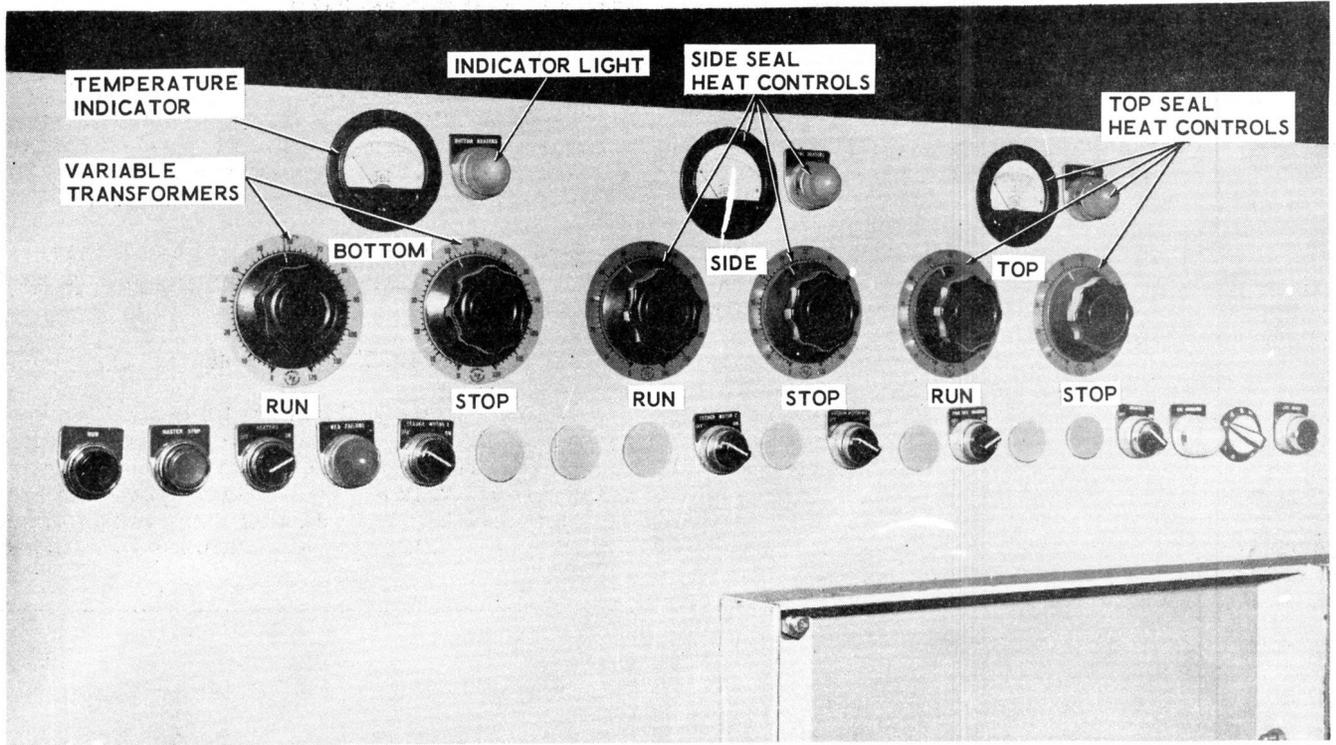
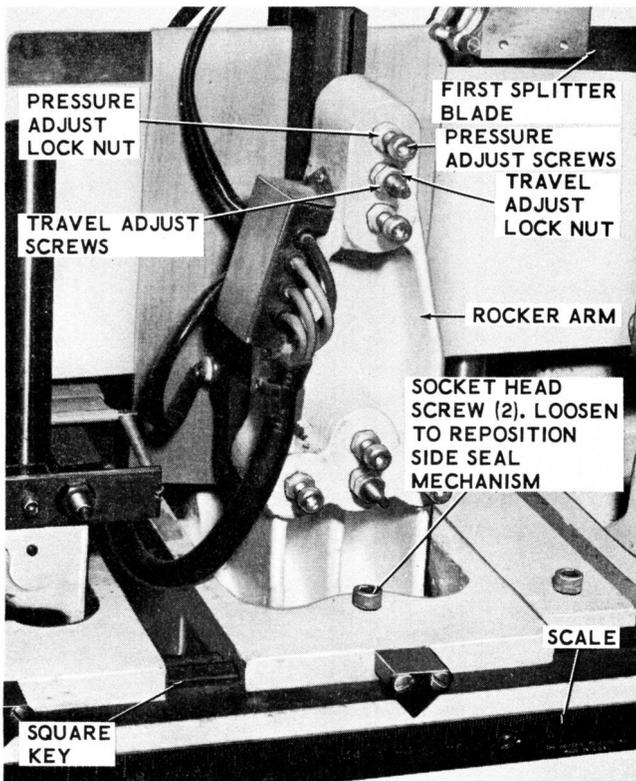
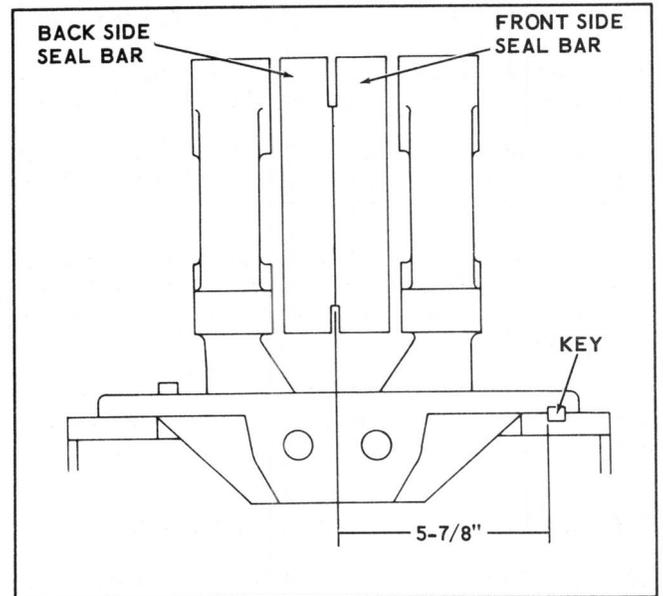

Figure 3-16. Seal Heat Controls
Figure 3-17. Side Seal Assembly
Figure 3-20. Centering Side Seal Bars
There is one set of heat controls for each set of bottom seals, side seals and top seals. Controls are located on the control panel (Figure 3-16) of the electrical cabinet. A set of controls consists of two variable transformers with dials, one thermocouple pyrometer, and a light indicator. The pyrometer is used only as a visual check on temperatures and a guide in establishing the correct heat sealing temperatures. Each of the two variable transformers has a definite function; one (RUN) controls heat when the packager is cycling while the other (STOP) controls heat when the packager is not cycling. Heat control is switched from one variable transformer to the other automatically by a relay in the main panel. Another relay, located in the main panel, is a power relay, and carries current to the heating elements in the seal bars. By adjusting the variable transformers, the operator can control the voltage and maintain a constant heat under set conditions.
The side seal bars (Figure 3-17) form the leading and trailing side of each pouch by applying heat and pressure to the web. Each application of the seal bars produces a seal approximately 1/2 inch wide which, when cut at the feed roll mechanism, produces a 1/4 inch trailing side seal on the first pouch and a 1/4 inch leading side seal on the second pouch. Unlike the bottom seal bars, the pressure of the side seal bars is adjustable by spring loaded screws in the mechanism casting. The side seal bars are usually protected by a sheet of teflon coated fiber glass clamped to the first splitter blade. A 3/8 inch high area is left unsealed at the top of each pouch. Heat controls for the side seals are shown in Figure 3-16.
a. Loosen two socket head screws (Figure 3-17) holding mechanism in position on packager bed. Loosen screws retaining side mechanism actuating cam on cycle shaft.
b. Move mechanism to the left or right as required to obtain proper position. The mechanism must be moved in increments of pouch width using the scale (Figure 3-17) on the front of the unit and the pointer on the cutoff mechanism as a reference.
The front face of the back seal bar must be on the center line of the Packager. Use a machinist scale and measure 5-7/8 inches (Figure 3-20) from the inside of the square key of packager base (Figure 3-17) to the front face of the back seal bar. Turn travel adjusting screws (Figure 3-17) until the 5-7/8 inch dimension is obtained.
a. Jog Packager until side seal bars are in fully closed position. Loosen lock nuts (Figure 3-17) on each pressure adjusting setscrew.